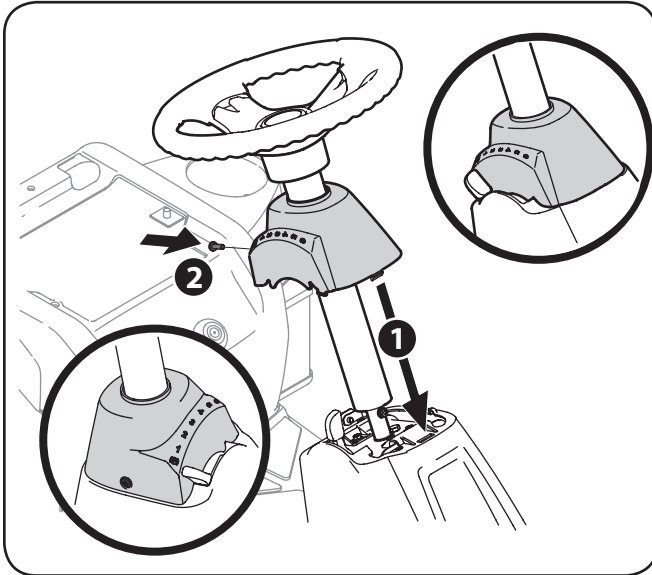

Figure 3-3
- Slide the Pedestal cap down onto the tractor (1) and slightly rotate to the right to clip into place. Secure the pedestal with the pan head screw (2) previously removed. See Figure 3-3.